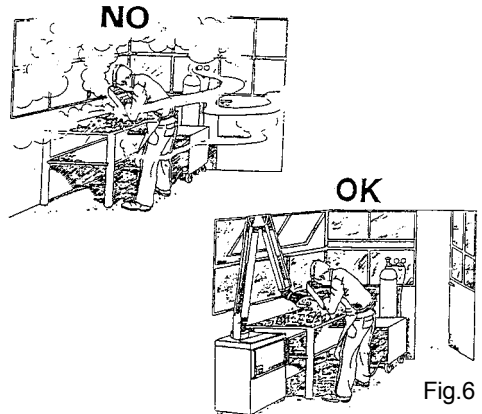

Fig.6
- The gases and fumes unhealthy or hazardous to the health of workers must be aspirated (as they are produced) as closely and effectively as possible to the source of their emission to prevent any concentration of pollutants that may exceed the limits defined by the local legislation. (Fig.6)